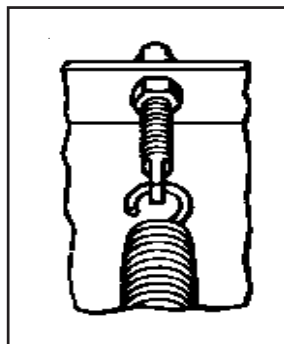

Figure 2
- A. Attach Trip Bumper (19) to flat plate in front of pivot tubes of Moldboard (1).
- B. Attach pivot bar (9) to Moldboard (1) using pivot pins (18) coated with chassis lubricant, 5/8" Flatwasher (16) and 1/8 x 1-1/4" Cotter Pin (17). **(Note: Grease hole on moldboard pivot tube)**
- C. Attach trip springs (11) to pivot bar (9) and moldboard (1) with eye bolts (13). Flat end of eye bolt (13) must be in a vertical position, as shown in Figure 2, to hinge properly when moldboard (1) trips. Proper tension is attained when trip spring (11) coils begin to separate and then tighten top locknut four additional turns. Tighten bottom Finish nut to secure eye bolt (13) in position. Install Eye Bolt Caps over threads.
- D. Assemble A-Frame (10) to pivot bar (9) using Bolt (14) and locknut (15).
- E. Install power angling rams with hoses to A-Frame (10) and piston end of ram to pivot bar (9) using hardware bag packed in the Hydraulic Carton.
- F. Straighten end of plow markers (8) so they will be vertical after installation. Attach using 1/4-20 x 1" bolt, clamp, lockwasher and nut.
- G. Secure the moldboard-pivot bar-A-frame assembly to vehicle at the clevis frame using Hinge Pins (20) and Lynch Pin (21). Attach lift chain to lift arm allowing sufficient slack to allow moldboard to follow ground contours.